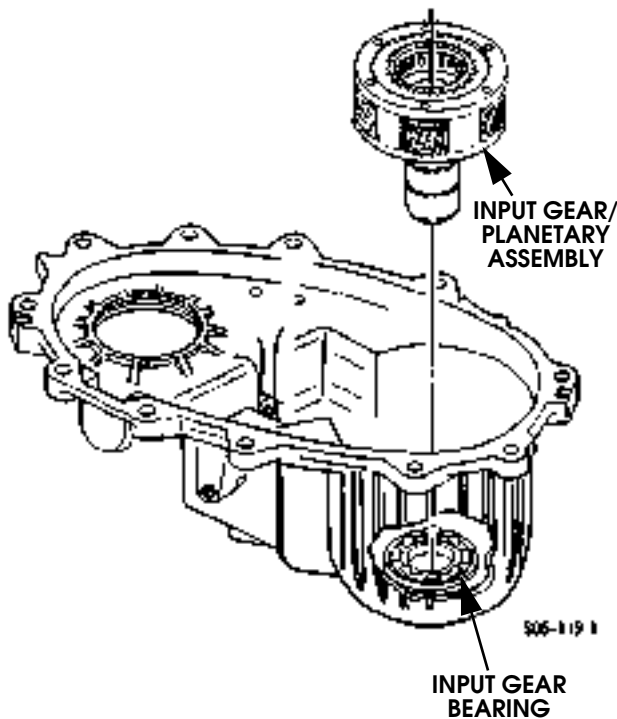

Figure 5-134: Input Gear/Low range Planetary Installation
3. Install input gear/planetary assembly in front case (Figure 5-134). Use wood hammer handle to tap input gear shaft through bearing.